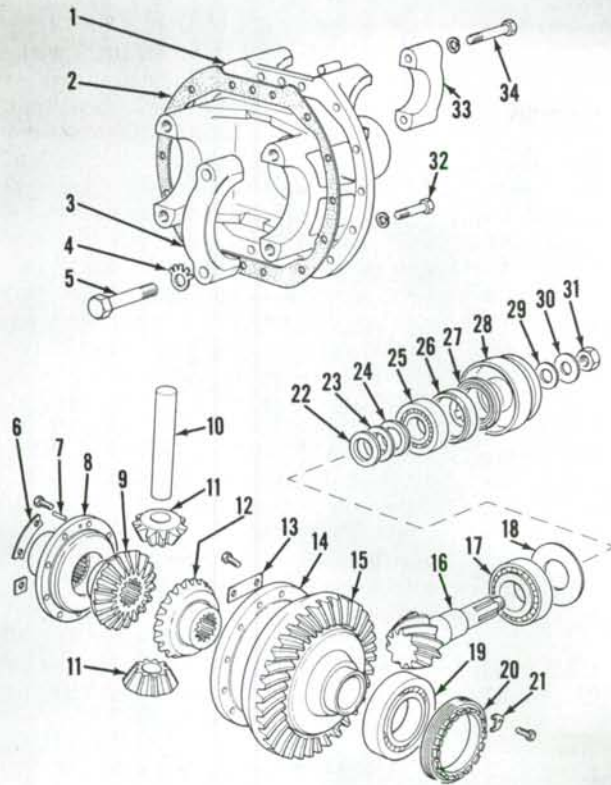
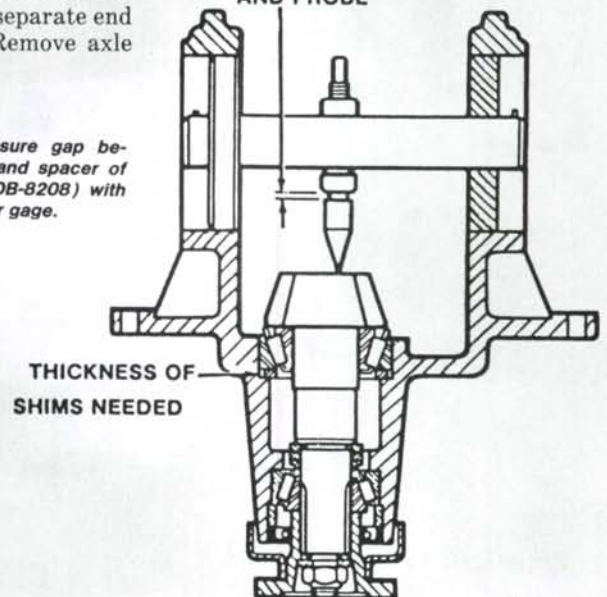

Fig. 11—Exploded view of David Brown differential assembly showing component parts and their relative positions.
Fig. 13—Measure gap between probe and spacer of special tool (DB-8208) with a feeler gage.
Remove pinion shaft locknut (31—Fig. 11), then drive pinion shaft through flange (28) and carrier (1). Front spacer (22), shims (23) and rear spacer (24) should remain on pinion shaft as it is removed. Remove remaining bearing cups and shims from carrier (1) as necessary. Inspect bearings and spacers on pinion shaft and renew as necessary.
Assemble pinion shaft in carrier minus shims (18—Fig. 11), oil seal (27), spacer (26), sealing washer (29), front spacer (22), shims (23) or rear spacer (24). Install flange (28), retaining washer (30), and locknut (31) on pinion shaft (16) and tighten locknut until all end play of pinion shaft is just removed, then tighten locknut just a small amount more to slightly preload bearings. Install special tool in carrier bearing bores as shown in Fig. 12. Install shaft (CAS-1236-6), probe and spacer (CAS-1609) and locknut (CAS-1234-4) of special tool so probe point lightly contacts face of pinion shaft gear. Tighten locknut to lock probe in this position. Using a feeler gage, measure and record amount of gap between spacer and probe. See Fig. 13.
Fig. 12—To set pinion shaft protrusion, install special tool set (DB-8208) in carrier housing as shown. Refer to Fig. 13 and to text to determine thickness of shims required to correctly set shaft protrusion.